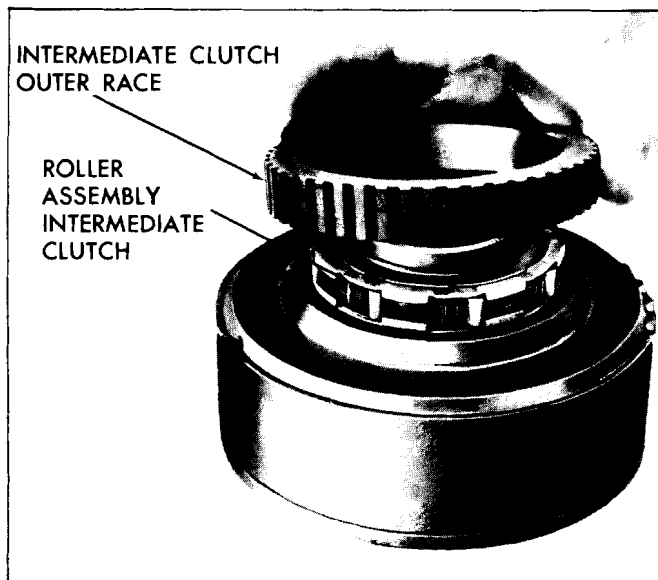

Fig. 7E-135 Installing Outer Race
13. Install the intermediate clutch outer race with a clockwise turning motion (Fig. 7E-135).